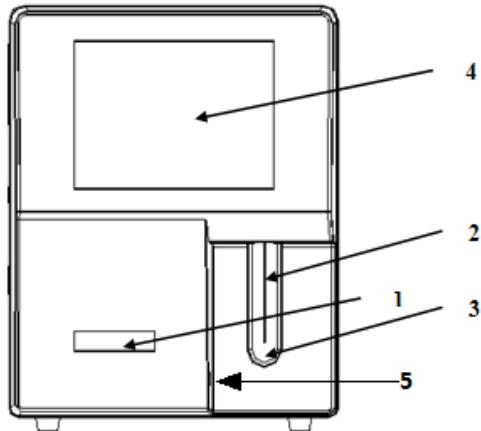

Figure 3-1 Front view of the analyzer
- The aspirate key of the analyzer (see Figure 3-1 Front view of the analyzer) shall be wiped with alcohol (75%) regularly.